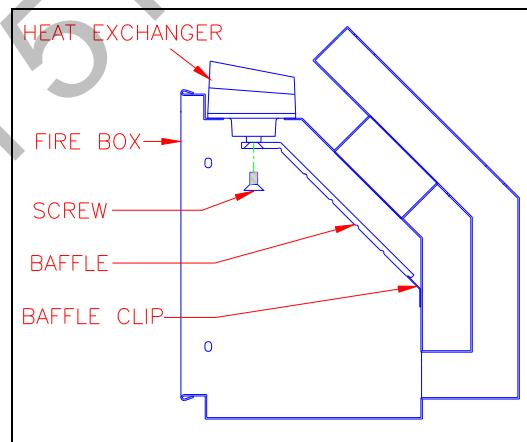
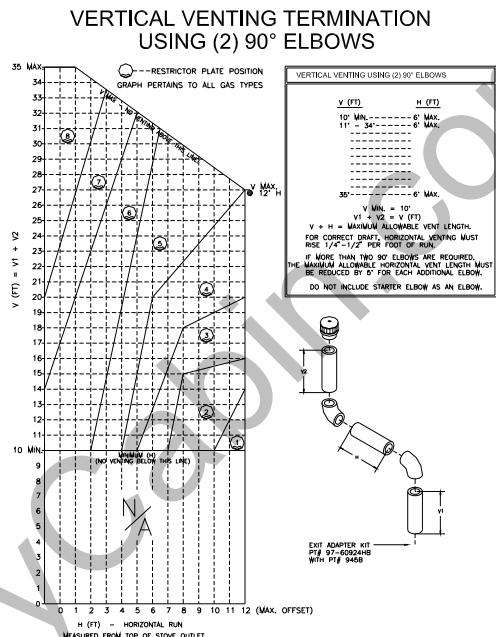
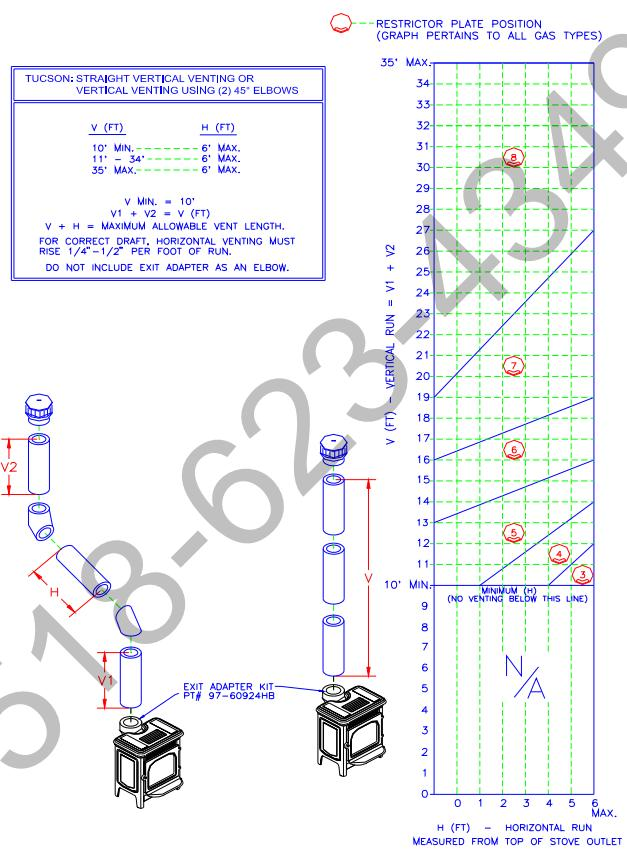

Figure 10: Baffle Removal
Figure 15: Vertical Termination Using (2) 90° Elbows
Figure 14: Vertical Terminations Using Straight Pipe
Remove the log set before adjusting the restriction plate by following the log set removal instructions on page 25. Make sure the unit is cool before touching any part of the firebox and log set. Remove the exhaust baffle by removing the one screw in the center of the baffle (refer to Figure 10). The baffle will come out once the screw is removed. *Be careful not to drop the baffle on the pan burner.* Once the baffle is set aside, check the restriction plate screw location. There are eight locations that the restriction plate can be positioned. (Refer to Venting Configuration – Figures 14 – 16 for recommended restriction plate positions)
APPROVED VERTICAL TERMINATION VENTING CONFIGURATIONS WITH NO ELBOWS OR (2) 45° OFFSETS, FIGURE 14, AND (2) 90° ELBOWS, FIGURE 15.
- 6' maximum offset (refer to Figure 14)
- 11' maximum offset (refer to Figure 15)
The termination must fall within the Outline shown in the Figures 14 & 15. Use the indicated restriction plate position. The Restriction Plate part # is 5950-922.